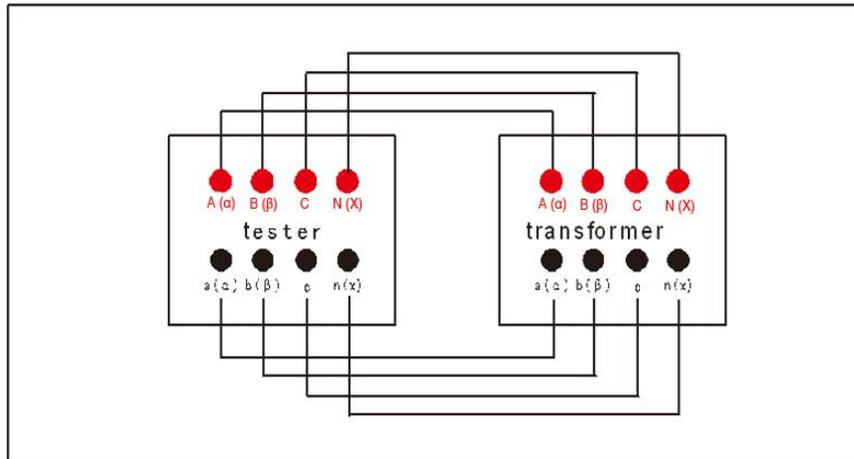

Figure 6
- Three-phase autotransformer is connected according to Figure 6.